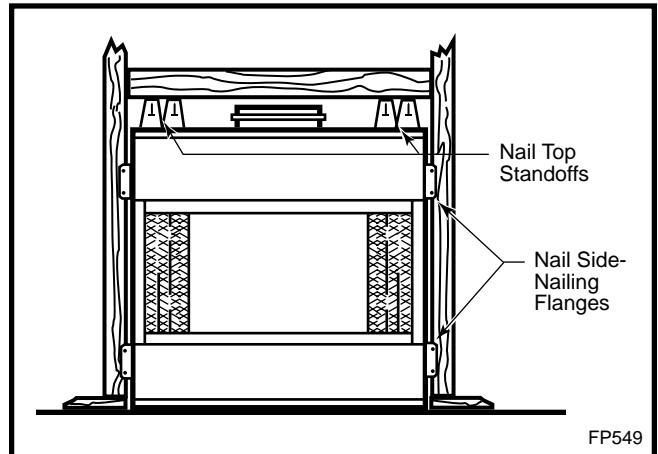

Fig. 15 Fasten fireplace in position.
Four (4) nailing flanges are incorporated on each corner of the surround. Bend the nailing flanges out, level the box, then secure it firmly in place by nailing the flanges to the framing members as shown in Figure 15.